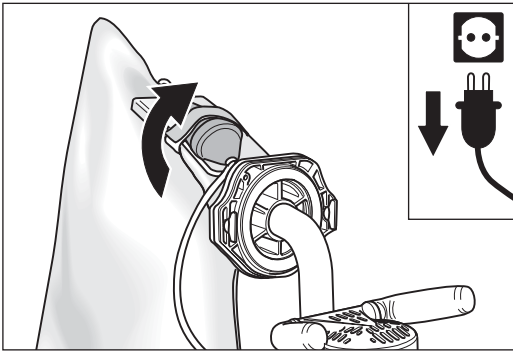

Fig. 16 Remove the coupler from the Velcro loop on the dust bag.
- 3 Remove the extension cable coupler from the Velcro loop on the dust bag (Fig. 16).